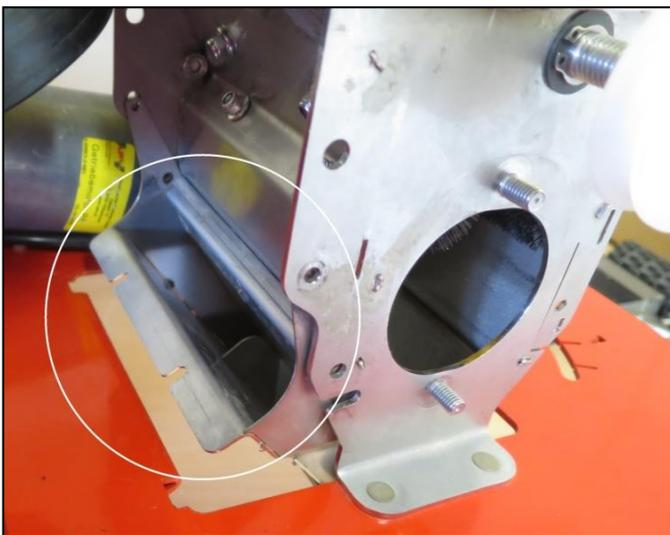
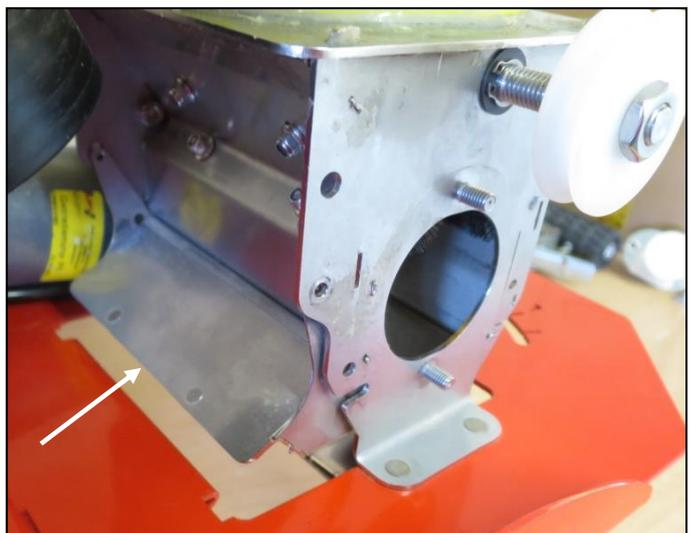

Fig.: 22
Fig.: 23
- Now lay the blower fan cover plate on the opening on the rear side of the metering unit, as shown in Fig.: 22 and Fig.: 23.